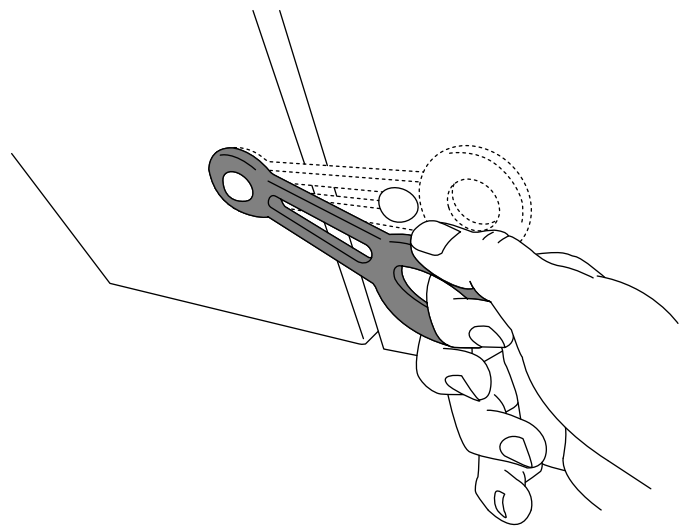

Figure 18
5. Close the engine cowl and secure the cowl latches (Figure 18).